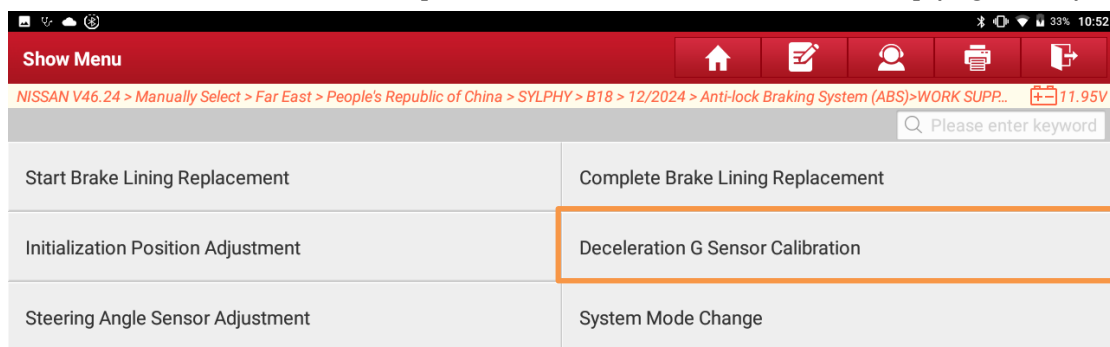

Figure 11
6. Click [WORK SUPPORT] to enter the [WORK SUPPORT] menu interface. On this interface, choose [Deceleration G Sensor Calibration] (Figure 11).